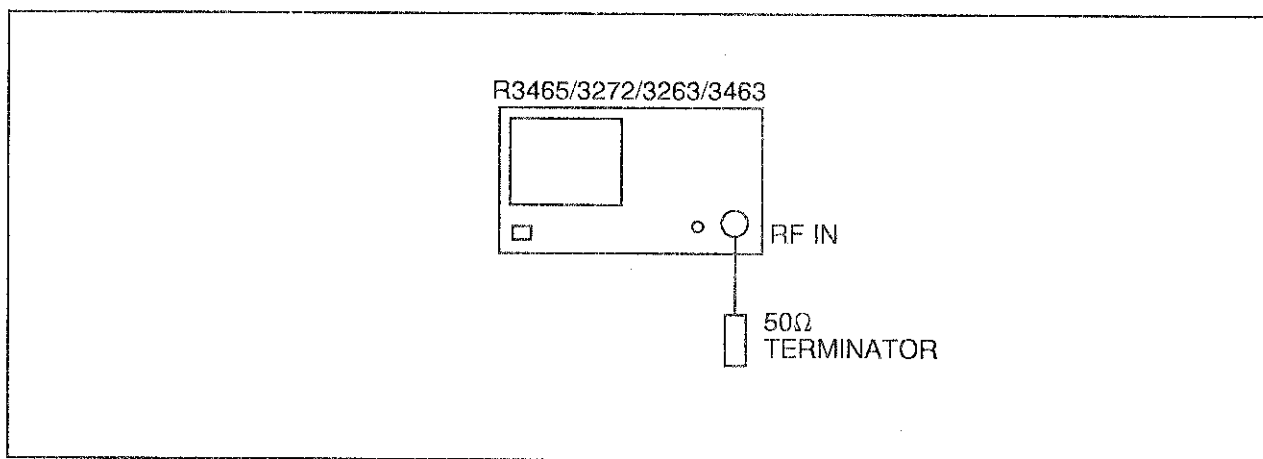

Figure 1-7 Displayed Average Noise Test Setup
- (1) Connect the equipment as shown in Figure 1-7.